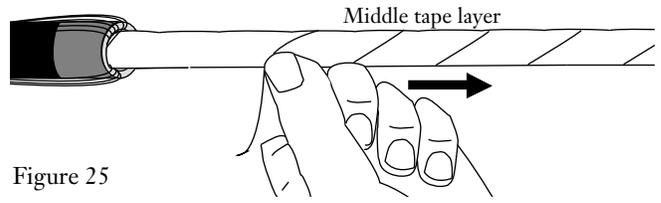

Figure 25
7.6 Tear the middle layer of tape at the point where you slit it so that it is completely severed at the end of the cable sheath. Slide the tape off the end of the cable (Figure 25).